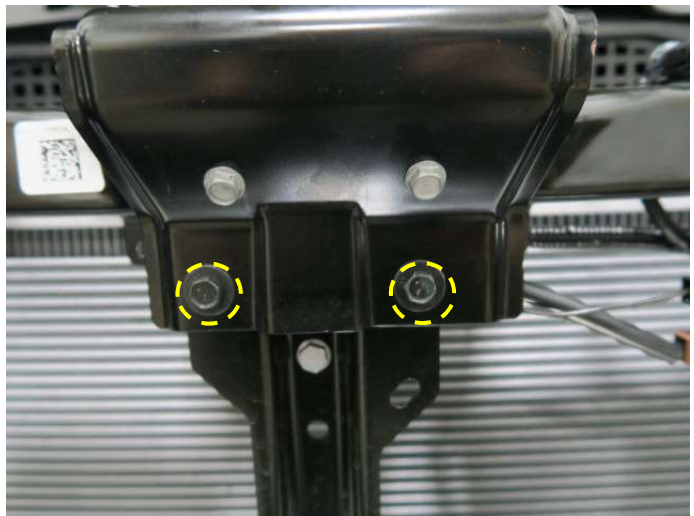

Figure 9
12. Remove the (2) lower securing bolts. (Figure 9)